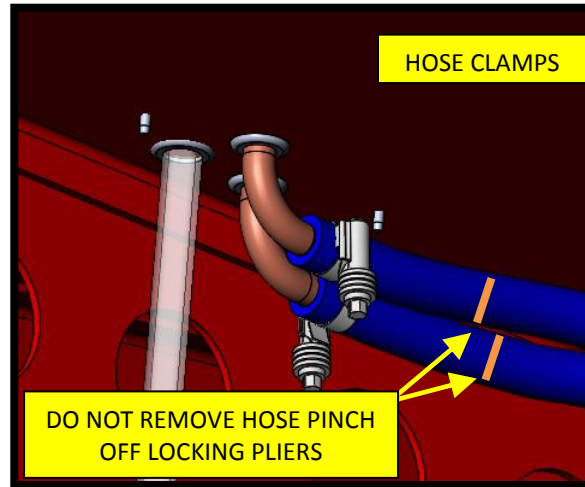

**FIG. 3-2**
5. Soak application dauber supplied in the kit in the P-80 Grip-It emulsion, also supplied in kit and apply a small amount of P-80 Grip-It to inside of heater hoses, pushing dauber in about 2" then remove. Refer to FIG. 3-2.